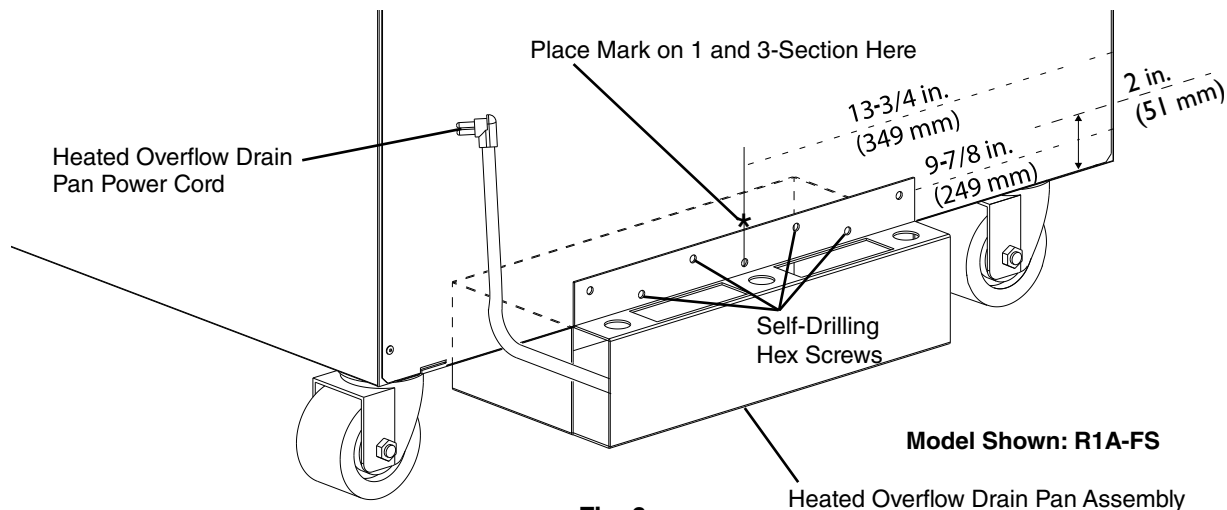

Fig. 6
**1-Section and 3-Section:** From the rear of the appliance, measure from the right side (and from the left side for 3-section models) of the appliance 13-3/4 in. (349 mm) and up from the bottom 1-3/4 in. (44 mm) to 2 in. (51 mm) and place a mark. See Fig. 6. Next, place the heated overflow drain pan assembly at the rear and beneath the appliance, flush to the bottom, and with the center mounting hole lined up to the mark made. See Fig. 6. Lift the heated overflow drain pan assembly flush against the rear panel of the appliance and secure using 4 of the self-drilling hex screws provided in this kit. The heated overflow drain pan power cord should be on the left side from the rear view.